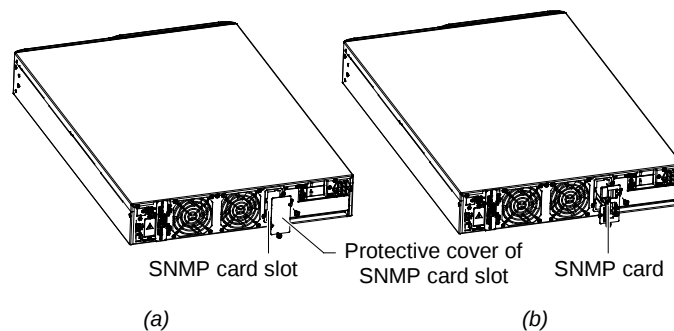

Figure 2-13 Installing SNMP card
1. Remove the protective cover of the SNMP card slot, as shown in Figure 2-13 (a). Take care of the protective cover for future use.
2. Insert the SNMP card to the SNMP card slot and fasten it with screws, as shown in Figure 2-13 (b).